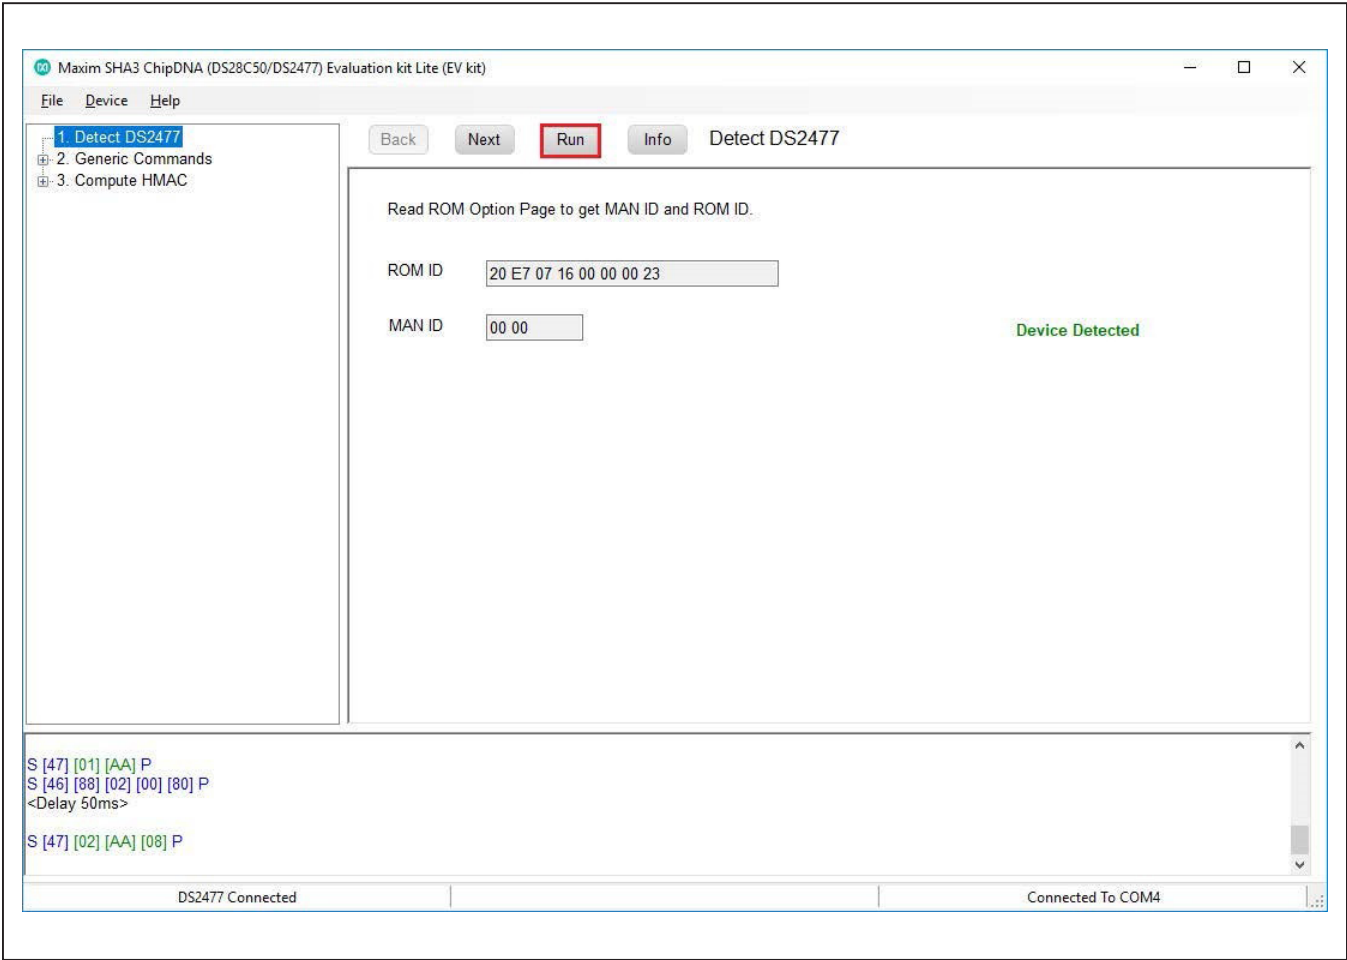

Figure 11. DS2477 Successfully Detected by the EV Kit Software
- 9) Wait for the green **Device Detected** message to appear and the ROMID and MANID fields to populate as shown in Figure 11. If this message does not appear, check your hardware connections.